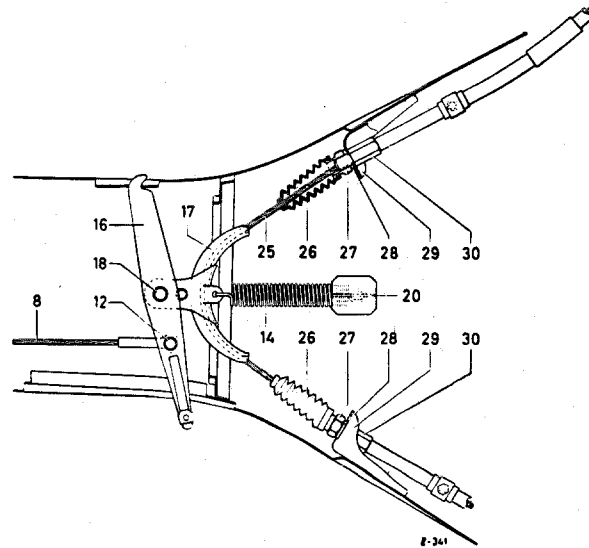

Fig. 42 — 19/3
5. Loosen the clamping screw (10) and pull out the cable guide (9) from the two pulley housings (8).
6. Detach the return spring (14) from the brake cable guide (17) and from the bracket (20) at the chassis base panel (Fig. 42 — 19/3).
7. Detach the equalizer (16) at the propeller shaft housing and after releasing the hand brake pull it slightly toward the rear